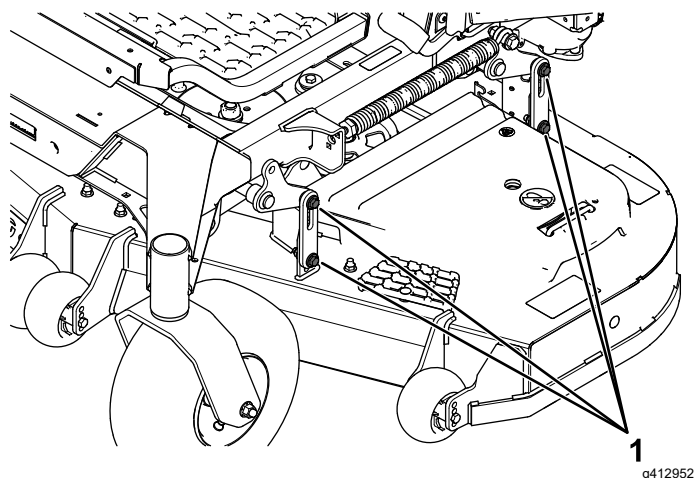

Figure 108
16. Loosen the bolts (Figure 108) on all 4 corners and ensure that the mower deck is sitting securely on all 4 blocks.